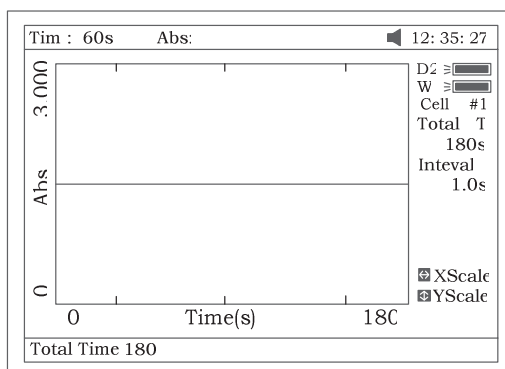

Fig 53
1. Press **【F1】** to set “Total Time”, ”Delay Time”, ”Time interval”, and input the value by pressing the numeric keypad (Fig 53).